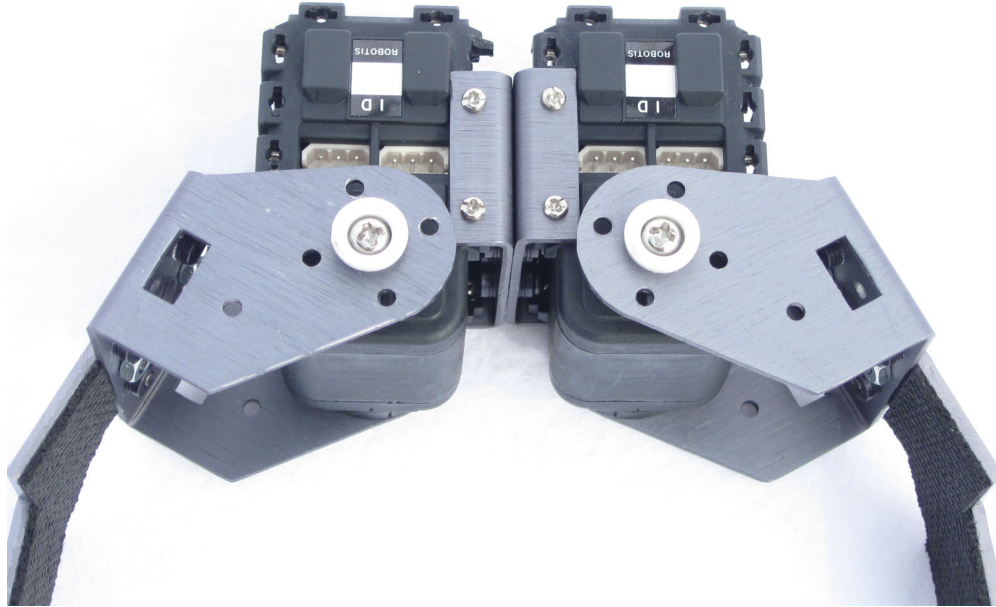

Figure 6 – Bottom view
7. Using (4) 2mm screws and (1) AX-12/18 set screw (1 set for each side of the gripper), install the gripper assembly to the AX-12/18 servo as shown in figure 6 and 7. Be sure that the servo horn is centered before installing the gripper assembly by aligning the center marks of the servo horn.